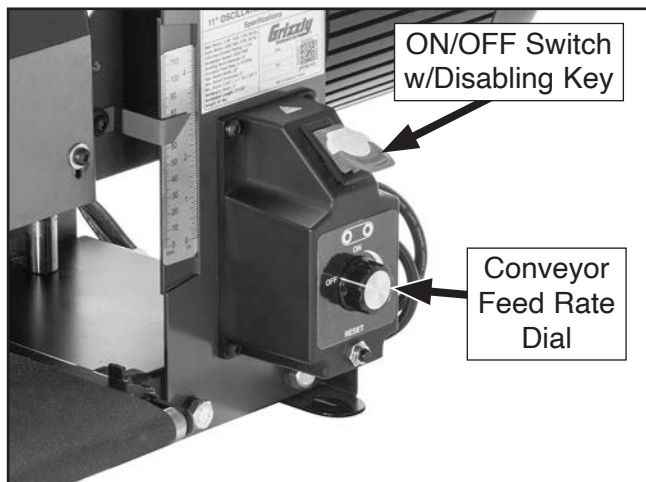

Figure 11. Power controls.
3. Turn conveyor feed rate dial all the way counterclockwise (see **Figure 11**).
4. Move ON/OFF switch up to turn machine **ON** (see **Figure 11**).